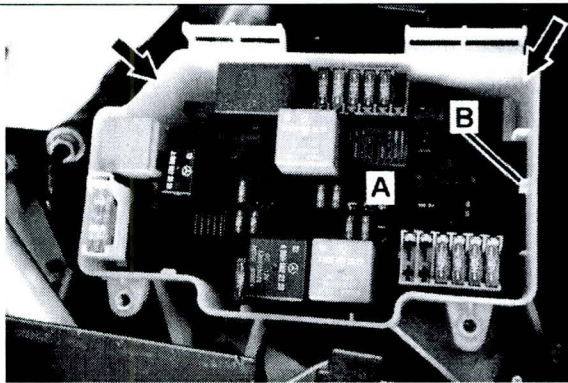

Figure 3
4.  Remove engine fuse and relay module (A, Figure 3):
- Using plastic wedge, carefully pry back side of fuse and relay module box (arrows) near locking clip (B).
- Lift up on edge of fuse and relay module (A) to clear locking clip (B)
- Pivot fuse and relay module (A) towards center of the vehicle to remove.